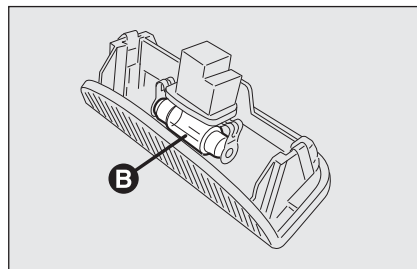

fig. 45
- replace the bulb **B-fig. 45** releasing it from the side contacts making sure that the new bulb is correctly clamped between the contacts;